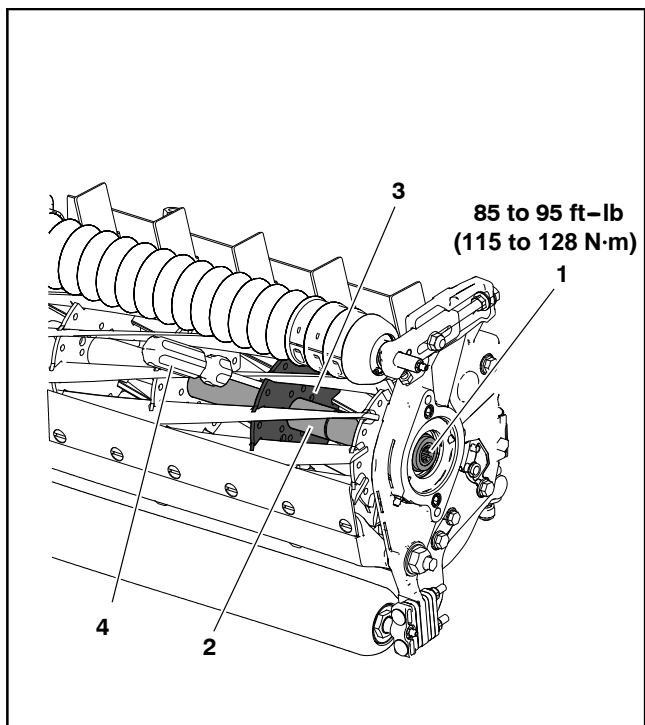

Figure 38
5. Loosen the spline inserts (Fig. 38):